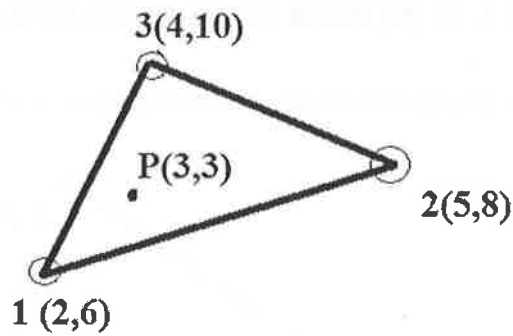

Fig. 3
5. Find the shape function, Jacobian matrix & [B] matrix for a 3 noded CST element shown in fig. 3